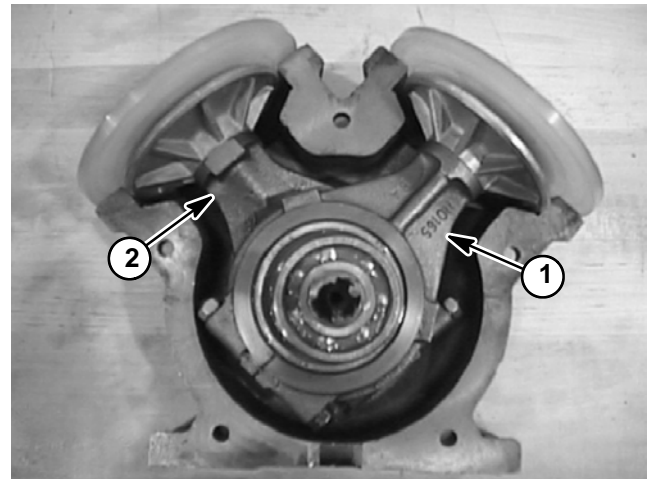

Figure 12
E. Slide crankshaft assembly into pump casing. The rear connecting rod should be positioned to the left side and the connecting rod closest to you to the right side (Fig. 12).